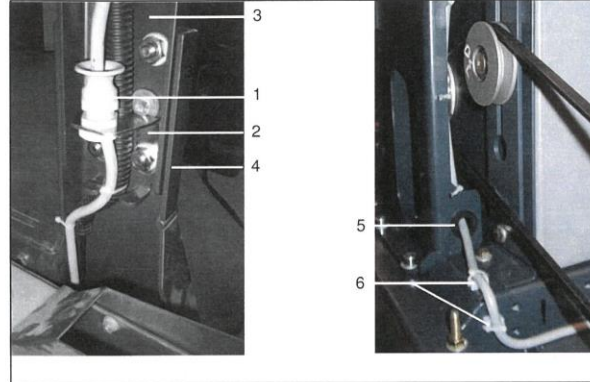

Fig. 5 Lay harness
Mount angle (Abb. 5/2) to the lift-up dumping stand (Abb. 5/3) with 2x M10x25 screw (49 Nm).
Mount angle (Abb. 5/2) to stand (Abb. 5/4) with 2x M8x18 screw, 2x M8 nut and 4x Ø 8,4 washer.
2. Mount strain relief (Fig. 5/1) to angle (Fig. 5/2) and cable sleeve (Fig. 5/5) to the stand.
4. Mount screwed base to frame (Fig. 5/6) with sheet metal screws and fasten the cable at the base.